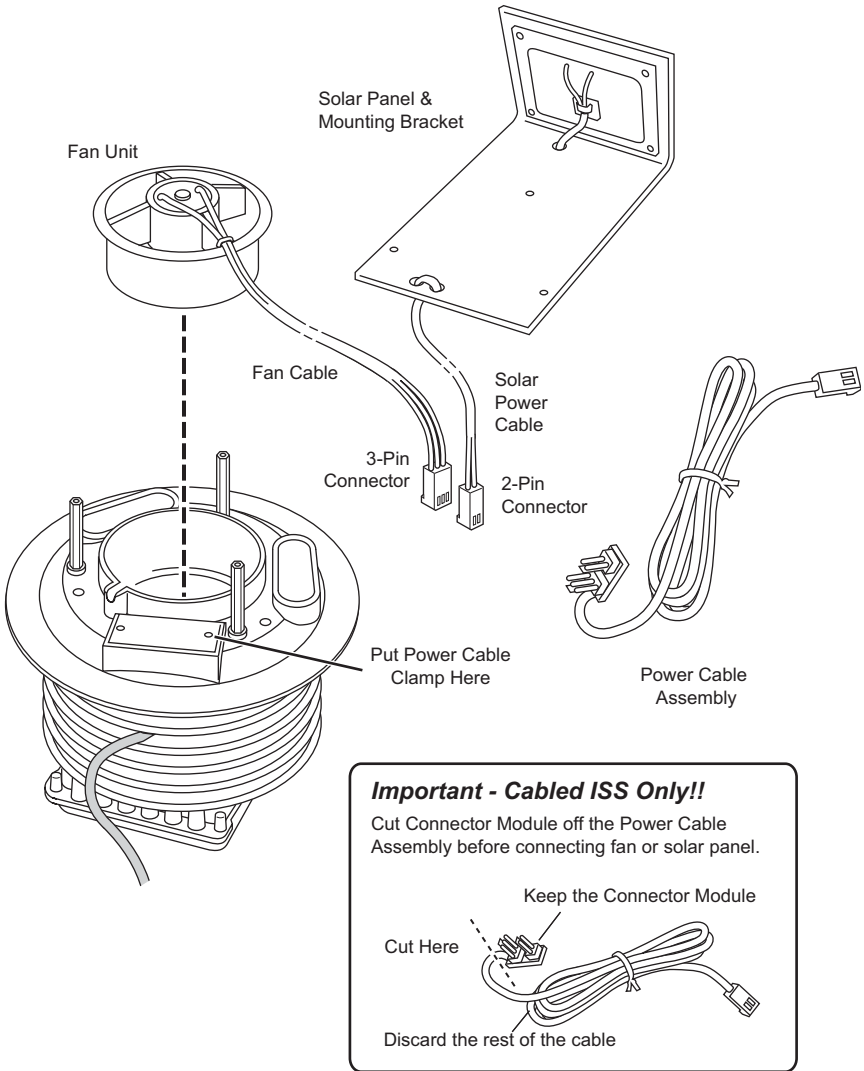

Figure 14. Install Fan Unit
1. Place the fan unit into the center of the fan plate. See Figure 14.
2. **Cabled ISS Only:** Because the SIM in a cabled ISS receives power from the console, we recommend you cut the power cable next to the connector module and discard the cable. Save the connector module for use in Steps 3 and 4. See Figure 14.